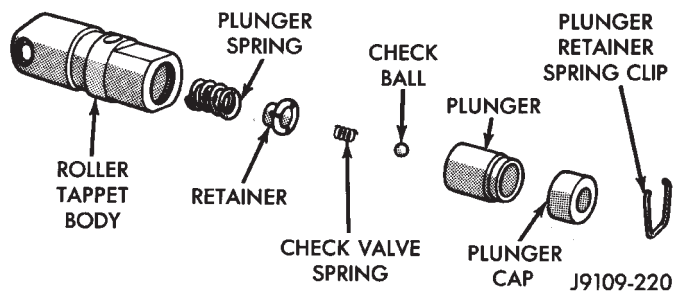

Fig. 50 Hydraulic Tappet Assembly
- (1) Pry out plunger retainer spring clip (Fig. 50).
- (2) Clean varnish deposits from inside of tappet body above plunger cap.
- (3) Invert tappet body and remove plunger cap, plunger, check valve, check valve spring, check valve retainer and plunger spring (Fig. 50). Check valve could be flat or ball.
- (1) Clean all tappet parts in a solvent that will remove all varnish and carbon.
- (2) Replace tappets that are unfit for further service with new assemblies.
- (3) If plunger shows signs of scoring or wear, install a new tappet assembly. If valve is pitted, or valve seat on end of plunger is prevented from seating, install a new tappet assembly.
- (4) Assemble tappets (Fig. 50).